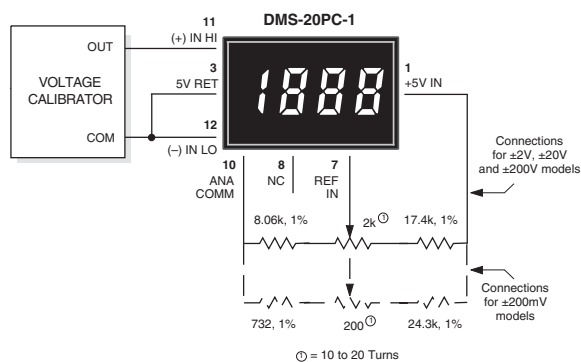

Figure 10. External Gain Adjustment
**6. Gain Adjust:** There is a gain-adjust potentiometer on the back of each meter. It has approximately ±50 counts (±2.5%) range of adjustment. Since these devices essentially have no zero/offset errors, a gain adjustment is effectively an overall accuracy adjustment. Though they may be performed at any point (except zero), accuracy adjustments are most effective when performed with higher level input signals. The circuit shown in Figure 10 provides ±10% range of adjustment.
**8. External Gain Adjustment:** Connect REFERENCE OUT (pin 8) to REFERENCE IN (pin 7) for normal, factory calibrated, operation. Use the circuit shown in Figure 10 for applications needing external gain adjustment. Calibration is performed with a precise, near-full-scale, input voltage.